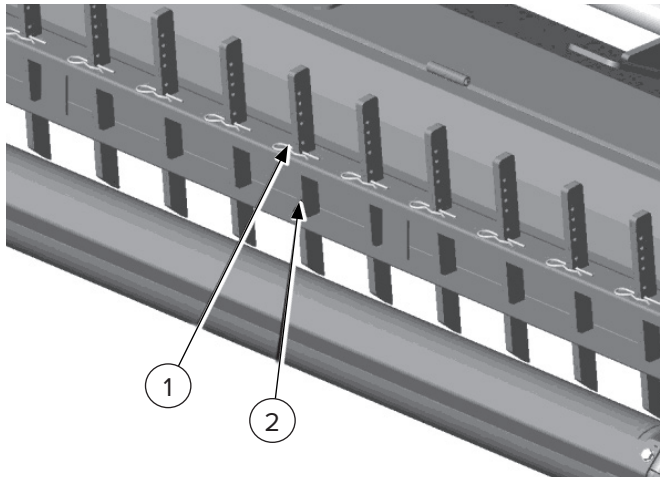

Figure 6
1. Remove the cotter pin [Figure 6, Item 1] from a rake.